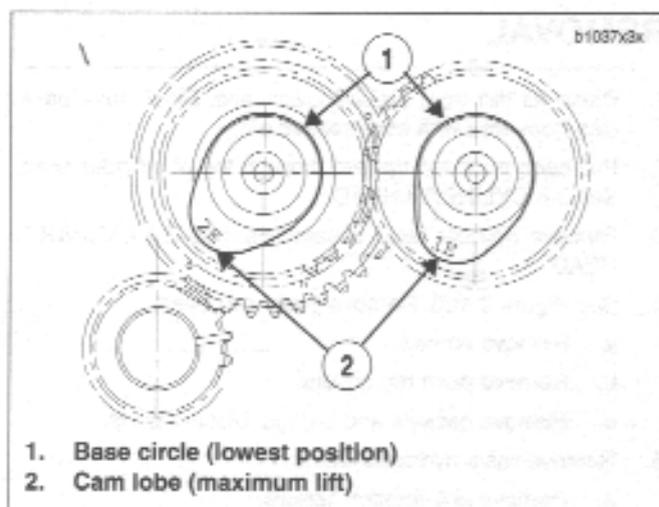

Figure 3-124. Base Circle
- See Figure 3-124. Rotate engine so that both lifters from the cylinder will be installed on the base circle of the cam.